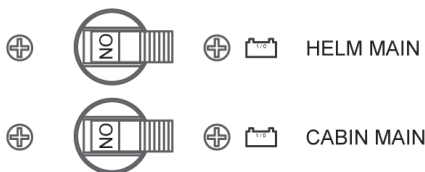

Figure A2: Helm & Cabin Main Circuit Breakers - "OFF"
2. Turn the HELM MAIN circuit breaker switch ON located on the 12VDC cabin panel. See Figure A2.